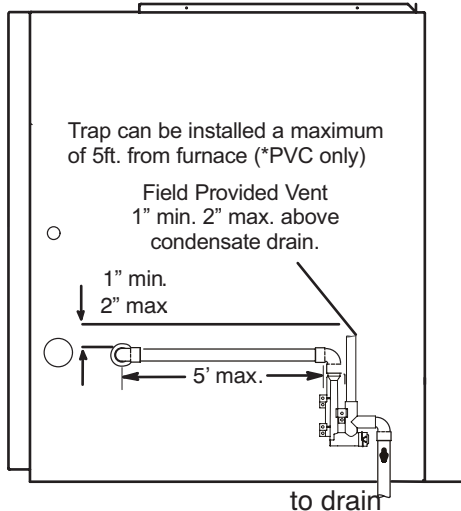

**FIGURE 41**
**NOTE** - Appropriately sized tubing and barbed fitting may be used for condensate drain. Attach to the drain on the trap using a hose clamp. See FIGURE 41.